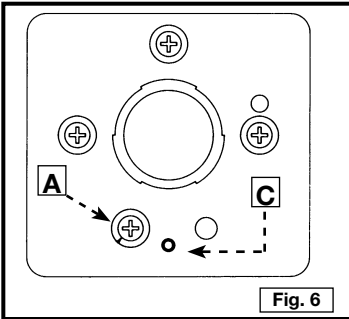
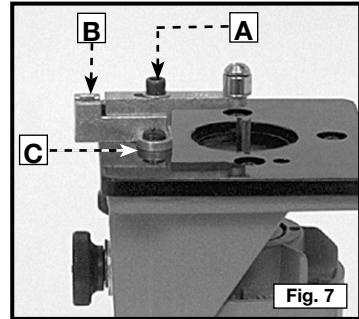

Fig. 6
Fig. 7
3. The base and roller guide (A) Fig. 5 is assembled at the factory. To install, remove a sub-base mounting screw (A) Fig. 6 and insert the alignment pin (in the guide base) into the hole (C) in the bottom of the trimmer sub-base. Fasten with two mounting screws (F) Fig. 5 and (C) Fig. 7. Hand tighten for further adjustment.
5. Align the roller guide with the bit by loosening the locking screw (A) Fig. 7 and turning the adjusting screw (B) with the provided hex wrench until the guide is in the desired location.